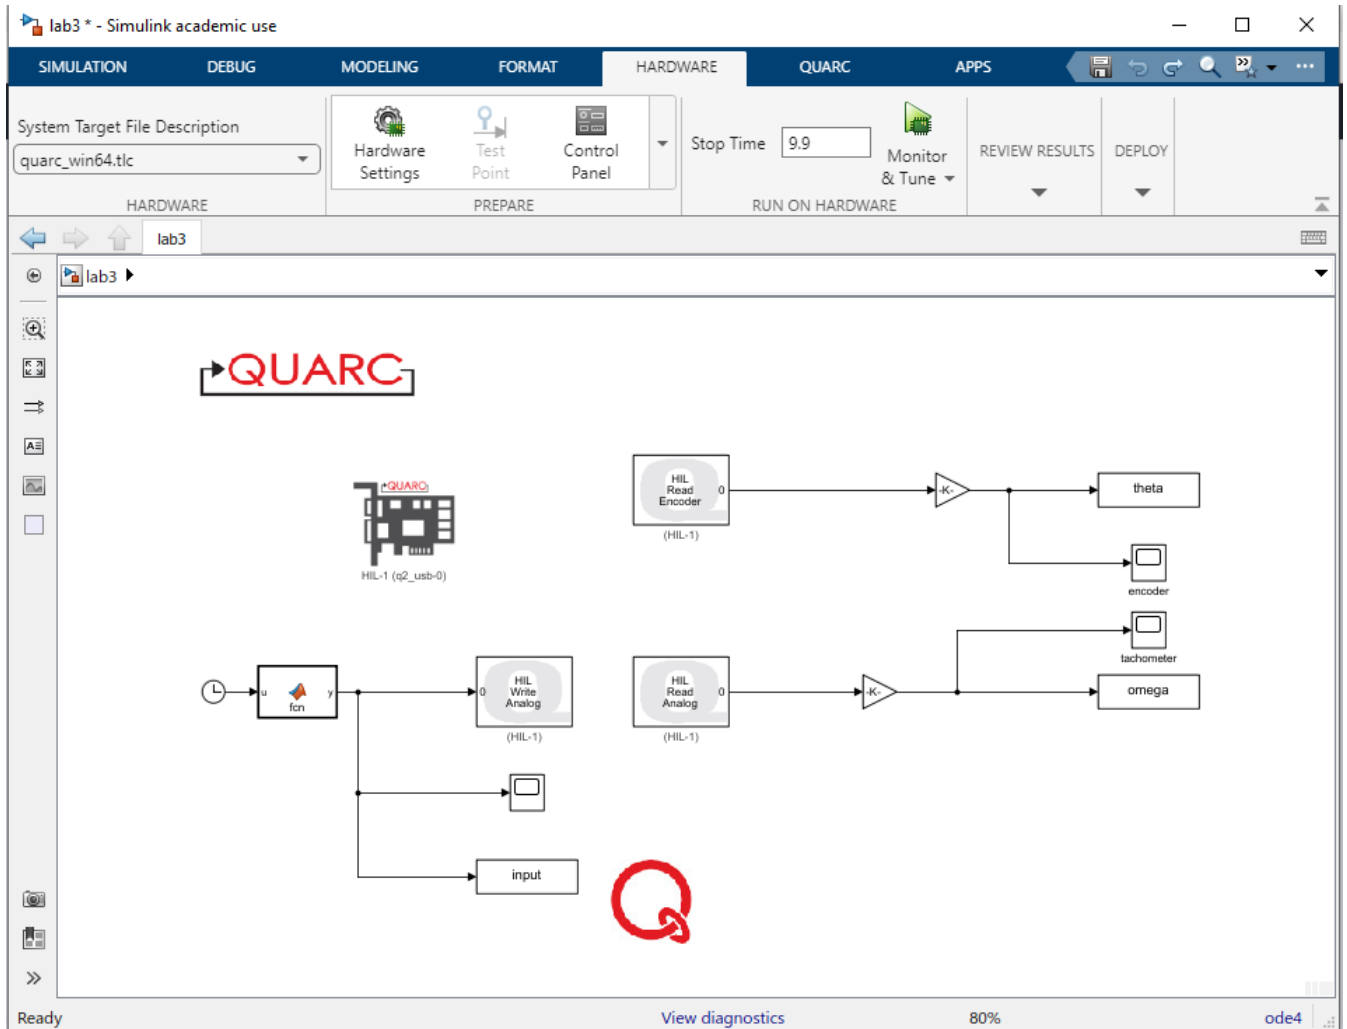

Figure 3.3: Simulink model for the implementation of the signal $5 \sin(t^2)$
2. Follow Figure 3.3 and build a Simulink model to implement this signal. *Alternatively, you can modify your model from lab 2.* The **Fcn** block can be found in Simulink in